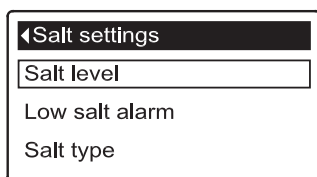

FIG. 30
3. Press the SELECT (○) button to display the Salt settings menu (See Figure 30).
7. Press the SELECT (○) button. The display will go back to the Salt settings menu (Figure 30).